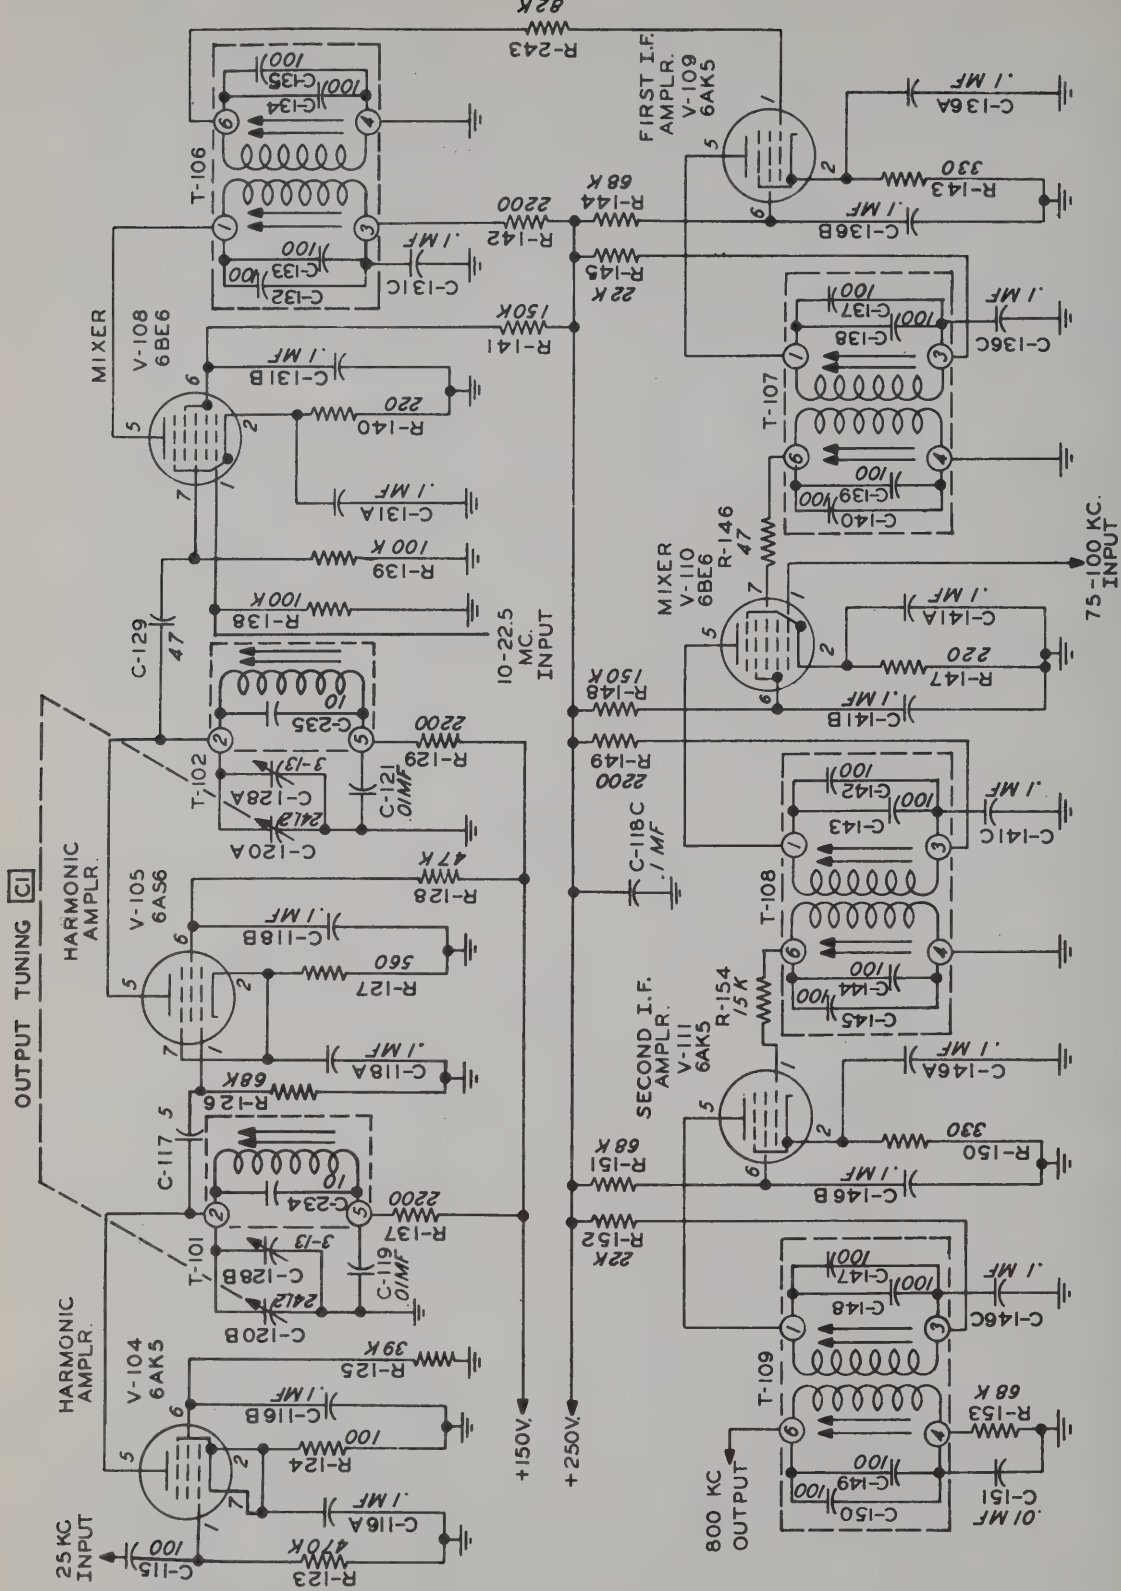

Figure 96. R-F Oscillator O-91/FRT-5, Harmonic Amplifiers, I-F Amplifiers, and Mixers, Schematic Diagram.
(g) *Harmonic amplifiers (fig. 96).* The harmonic amplifiers employ a type 6AK5 tube (V-104) for the first harmonic amplifier and a type 6AS6 (V-105) tube for the second harmonic amplifier. The plate circuit of V-104 is tuned by C-120B, C-128B, and a slug-tuned inductor, T-101. Capacitor C-119 isolates dc from C-120B and C-128B of the tuned circuit to make possible the grounding of the rotor of C-120B. The capacity of C-119 is sufficiently large that its effect on the tuned circuit is negligible. Capacitor C-120B is controlled
(h) *Multiplier V-113 (fig. 96).* The multiplier V-113 receives its input voltage from the plate of multiplier V-112 through coupling capacitor C-159. It operates as a Class C amplifier and multiplies the input frequency 5 times. The tuned circuit of V-113 consists of main tuning capacitor C-120C, which is controlled by the OUT-
(i) First I-F (875 to 900 kc) (fig. 96).
2. **Amplifier (fig. 96).** The i-f amplifier operates as a class A stage and employs a type 6AK5 (V-109) pentode. I-f transformer T-107 is connected to the plate of V-109 and the grid of V-110. This transformer, like T-106, is required to pass 875 to 900 kc, and is overcoupled to flatten out the peak.
(k) *Second I-F (800 kc) (fig. 96).*